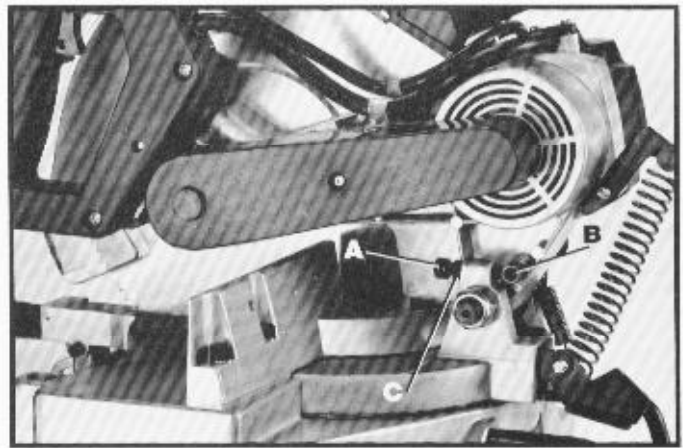

Fig. 26
The depth of cut is controlled when end of stop screw (A) Fig. 26, contacts stop (B) when the cuttinghead is lowered. If an adjustment is necessary, loosen locknut (C) and turn stop screw (A). Then tighten locknut (C).